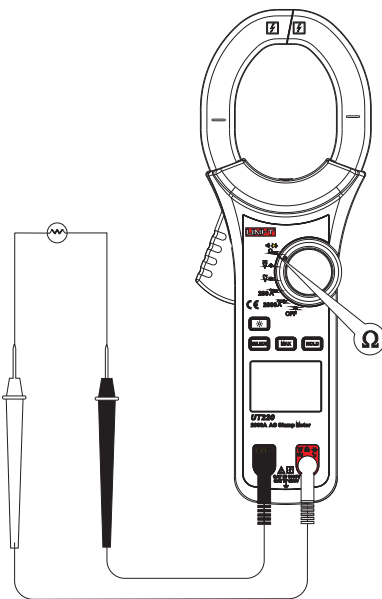

Figure 5
3. Resistance measurement Ω (See Figure 5)